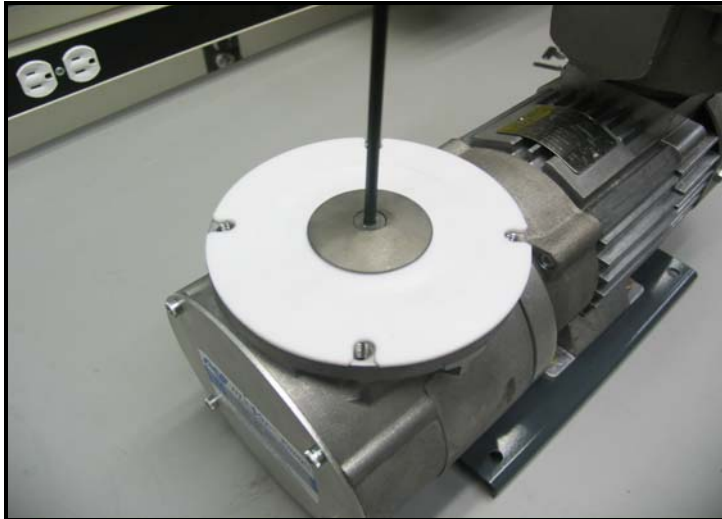

Figure 77: Removing the Diaphragm and Clamping Plate
9. The diaphragm is secured by the single screw in its center. Remove the 5/32" screw with a 5/32" Allen wrench (see Figure 77). The diaphragm and its clamping plate should be easily lifted off.